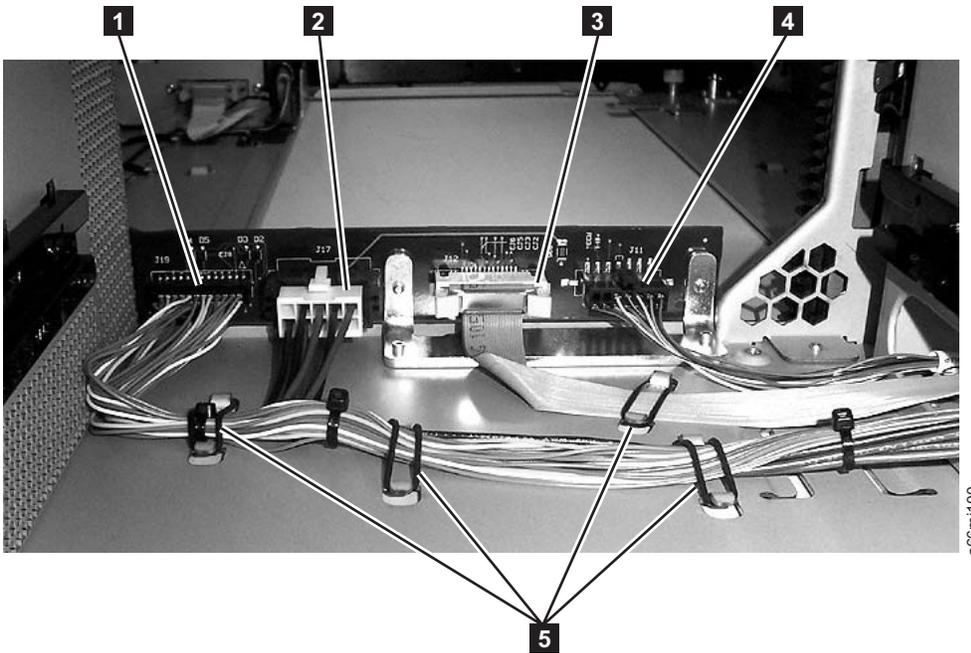
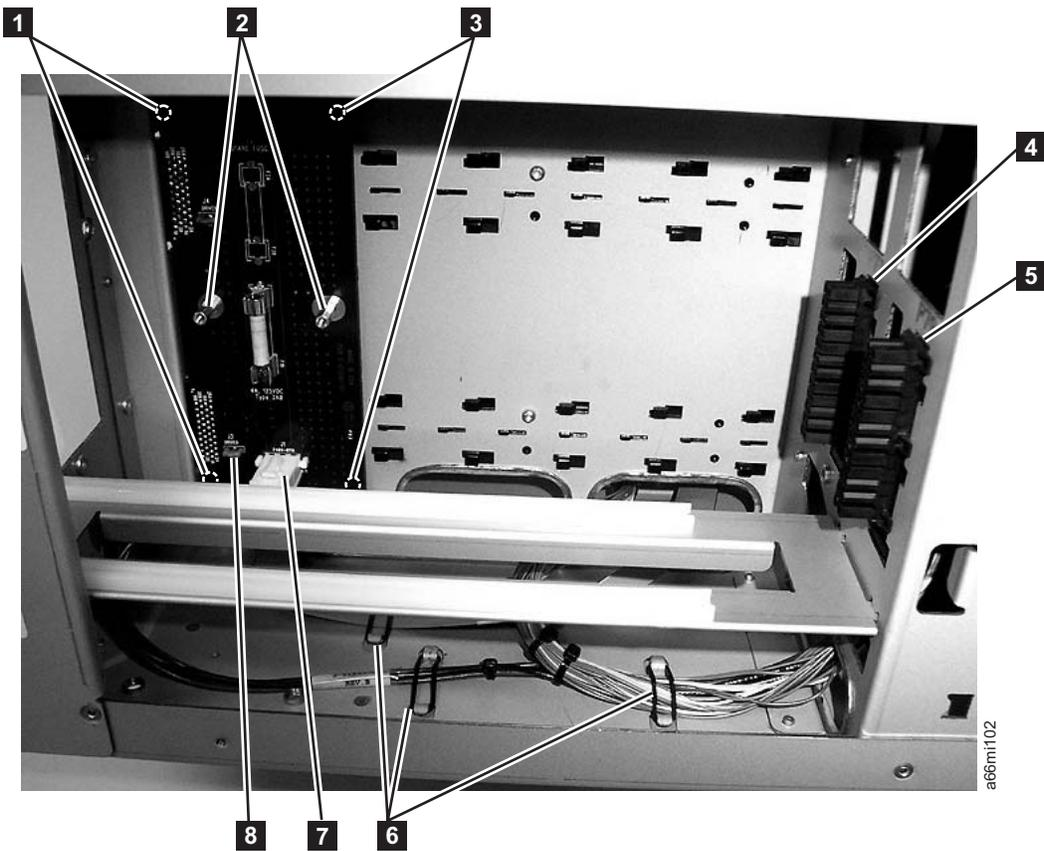

Figure 8-66. Backplane Connector Board (BCB), Rear View
Figure 8-67. Drive Sled Interface Board (DSIB), Side Cover Removed
- c. Remove the cable retainers ( **5** in Figure 8-66 on page 8-69 and **6** in Figure 8-67 on page 8-69).
- d. Remove cable connectors J77 ( **4** in Figure 8-67 on page 8-69) and J79 ( **5** in Figure 8-67 on page 8-69). Pinch the lower part of the connector, press towards the front and slide down to remove the connector from the frame.
- e. Unplug the 2 connectors P17 and P19 from the BCB (see **2** and **1** in Figure 8-66 on page 8-69).
- f. Remove the 2 screws ( **2** in Figure 8-67 on page 8-69) and remove the protective cover over the DSIB.
- g. Unplug the 1 power connector P1 ( **7** in Figure 8-67 on page 8-69) from the DSIB.
- 1) Unplug connector P2 ( **8** in Figure 8-67 on page 8-69) from the DSIB.
- 2) Unplug connector P12 ( **3** in Figure 8-66 on page 8-69) from the BCB.
- a. Remove the 2 hex stand-offs ( **2** in Figure 8-67 on page 8-69) from the DSIB. This requires a 4.5 mm (3/16-inch) wrench.
- b. The DSIB is held to the frame by slotted pins ( **1** and **3** in Figure 8-67 on page 8-69) in all 4 corners of the board.
- 1) Using a flat blade screwdriver, carefully pry the 2 front corners of the board ( **3** in Figure 8-67 on page 8-69) from the mounting pins.
- 2) Put finger pressure on the drive connectors on the back of the DSIB one at a time, while you move the board back and forth to pull it from the corner mounting pins ( **1** in Figure 8-67 on page 8-69).